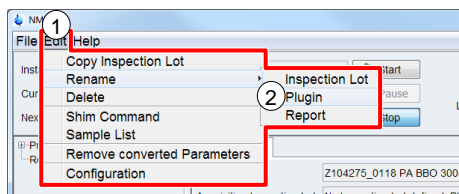

Figure 5-16: Rename Plugin in menu
To rename a plugin, on the **Edit** menu shown in Figure 5-16 (1), point to **Rename**, and click **Plugin** (2).